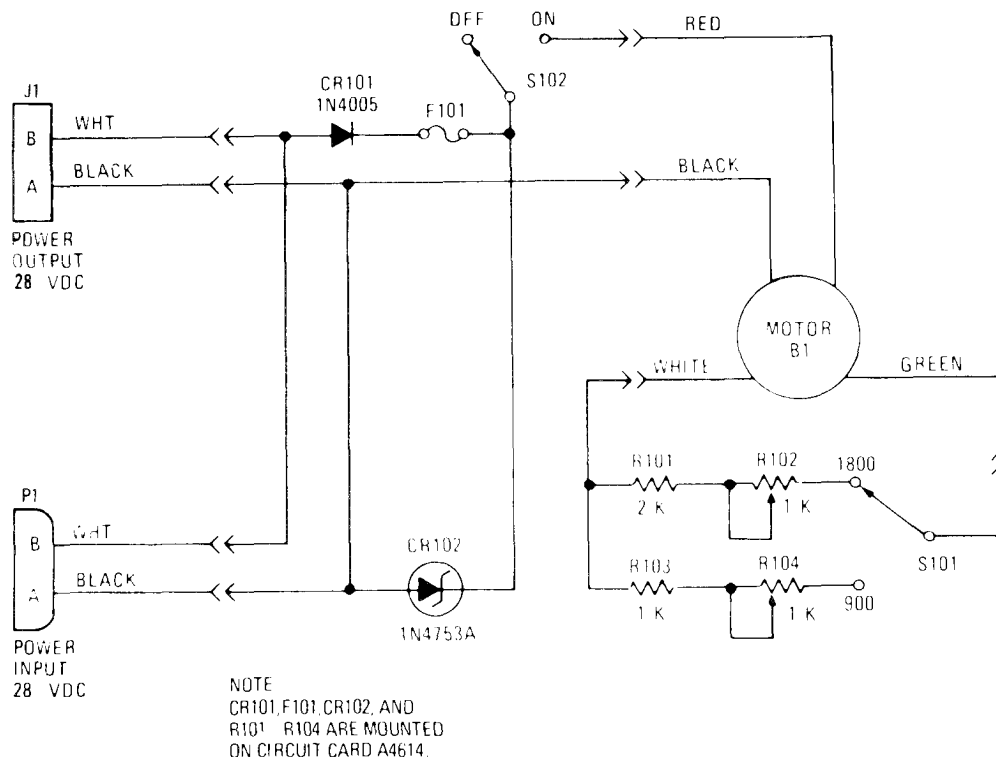

Figure 4-4. Tester Schematic Diagram
a. The circuitry in the Tester (fig. 4-4) includes a 2-ampere fuse (F101) and a 36-volt zener diode (CR102). These components protect motor drive circuit (B1) in the event the unit is accidentally connected to an improper power outlet.